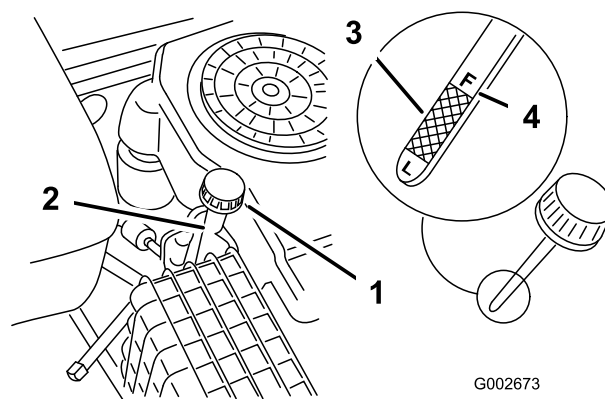

Figure 21
3. Clean around the oil dipstick (Figure 21) so that dirt cannot fall into the fill hole and damage the engine.
4. Unscrew the oil dipstick and wipe the metal end clean (Figure 21).